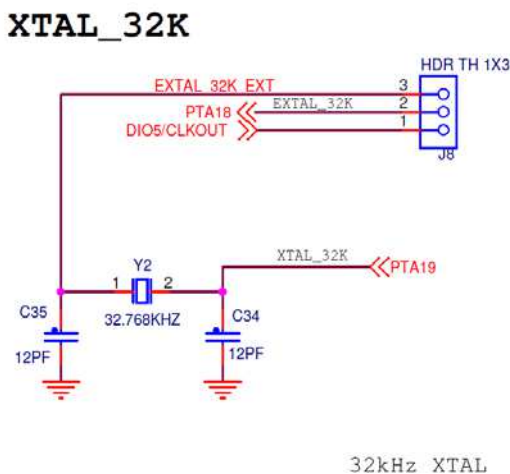

Figure 3-6. KW01-MRB 32.768 kHz Optional Oscillator Circuit
- Optional 32.768 kHz Crystal Oscillator - Provision is also made for a secondary 32.768 kHz crystal Y2 (see Figure 3-6). This oscillator can be used for a low power accurate time base.